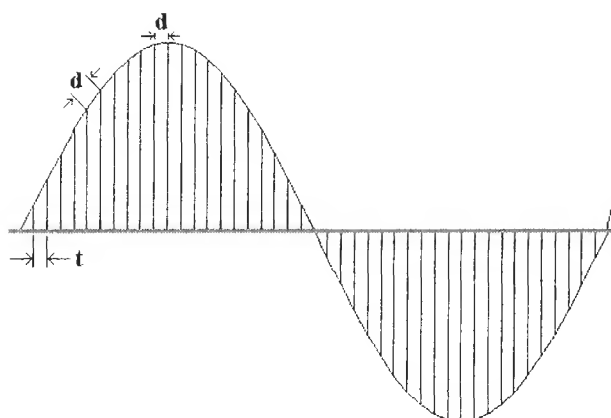

Figure L49-9
4. Time is important. How do we show time? Right now, the time is chasing around on the outside of the circle and distance is marked across the horizontal ground line. But the distance the electrons move is *not* as important to us as timing. So the next thing to do is to impose a time measure onto the horizontal line, replacing distance as the measure. This is shown in Figure L49-9. The amount of voltage